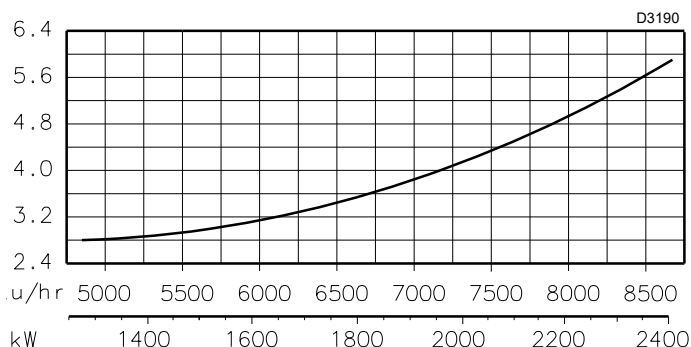

Fig. 18
The Fig. 18 is used to calculate manifold pressure taking into account combustion chamber pressure.
- find the pressure value in diagram, (Fig. 18);
A maximum output of 6700 MBtu/hr shown in corresponds to 3.8 "WC pressure, (Fig. 18).